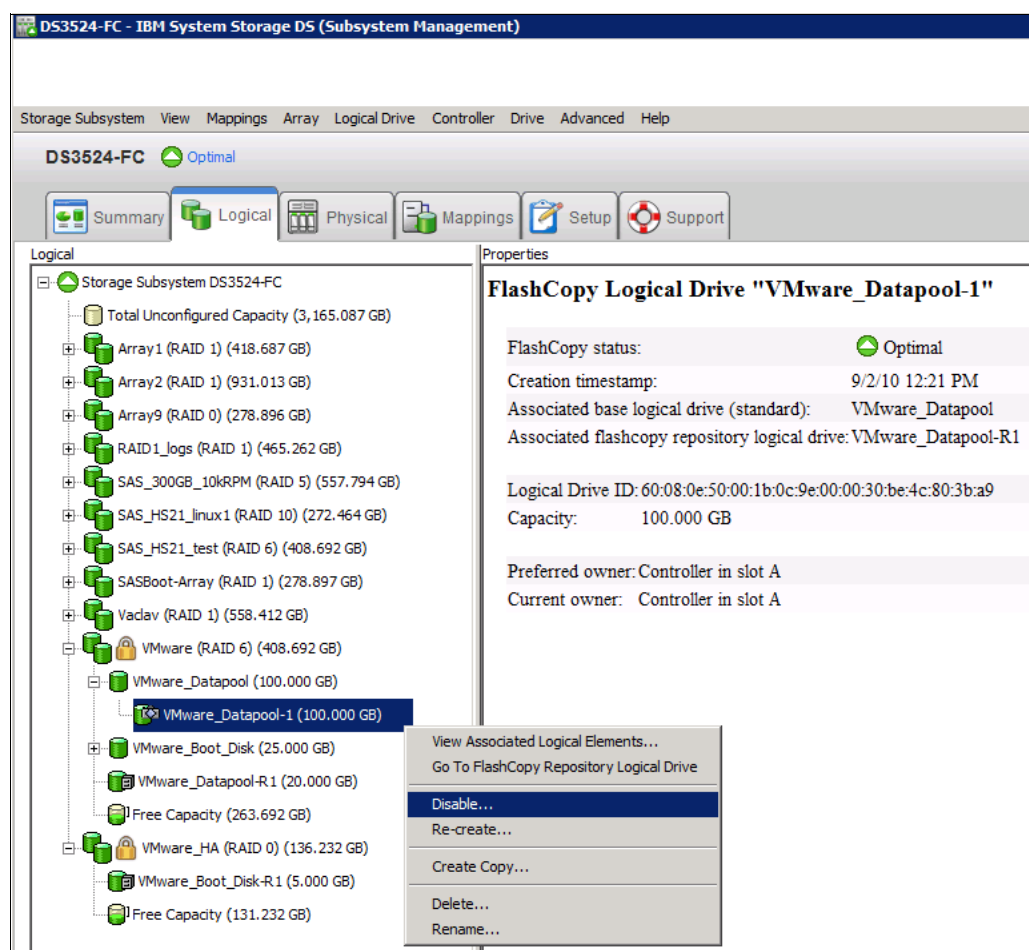

Figure 2-31 FlashCopy logical drive: Disable
1. Right-click on the FlashCopy logical drive and select **Disable**, as shown in Figure 2-31.